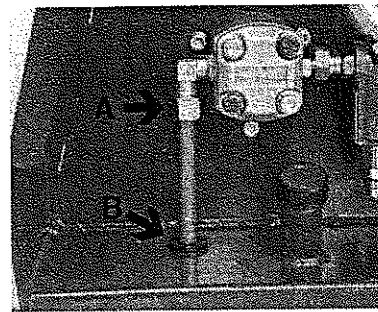

Fig.12 Intake line
- Undo the nut fixing the intake line (A, fig. 12).
- Remove the gasket (B, fig. 12) which retains the oil filter using a screwdriver with a blunt flat blade, pressing all around the circumference of the gasket (fig. 13) until the filter unit comes away from the chassis.